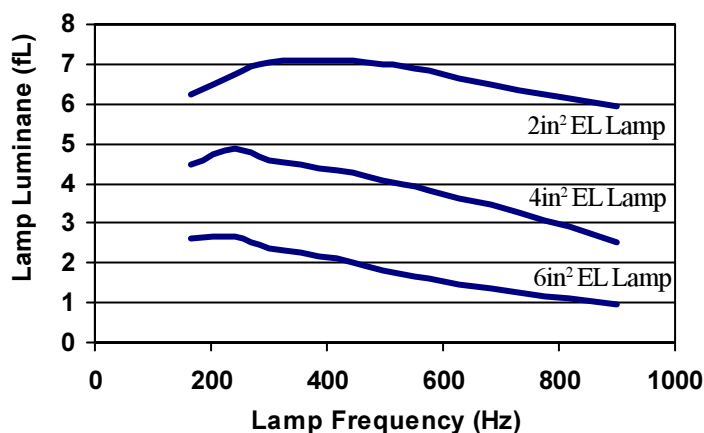

Figure 2: Typical Lamp Luminance vs. Lamp Frequency
The selection of the CLF value can also affect the brightness of the EL lamp because of its control of the lamp frequency (LF). Although input voltage and lamp size can change EL lamp frequency as well, LF mainly depends on the CLF value selected or the frequency of the input clock signal to CLF. The luminance of various sizes of Durel 3 Blue-green EL lamp driven by a D356B at $V^+ = 3.0V$ using the same inductor value is shown in Figure 2 with respect to lamp frequency.